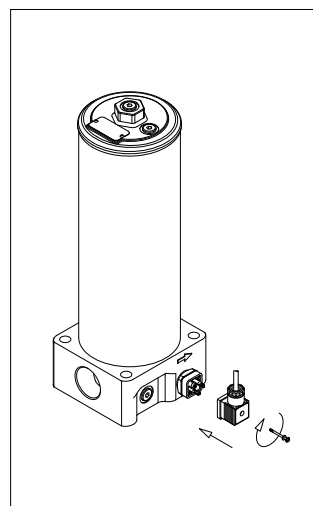

fig. 24
- (Fig. 24) Insert the connector by fastening the central screw (only for electrical indicators)